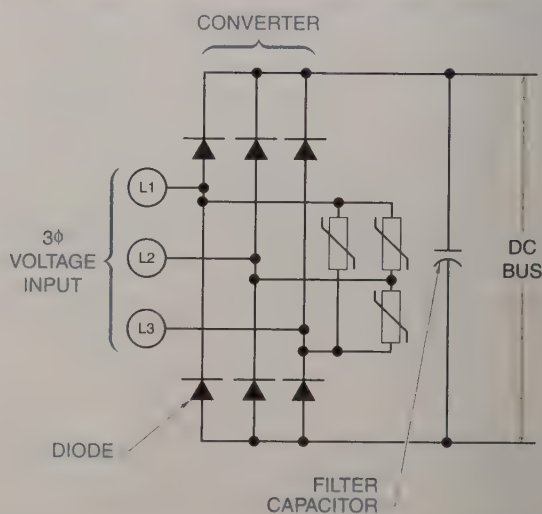

Figure 26-20. Capacitors are added to filter or smooth the DC bus voltage.
Capacitors. A capacitor is an electrical device designed to store a voltage charge by means of an electrostatic field. Capacitance (C) is the ability to store energy in the form of an electrical charge. Capacitors in a DC bus are charged from rectified DC voltage produced by the converter. Capacitors oppose a change in voltage and, when DC bus voltage starts to drop, they discharge a voltage back into the system to stop the drop in voltage. The main function of capacitors in a DC bus is to maintain proper voltage levels when voltage fluctuates. See Figure 26-20.